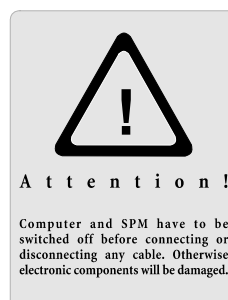

Fig. 4-1
- Switch the instrument off before any operation on connecting/disconnecting its cable connectors. Disconnecting or connecting the cable connectors during operations may cause damage to the electronic circuit and disable the instrument. A warning label is attached to the SPM controller of the instrument (Fig. 4-1).